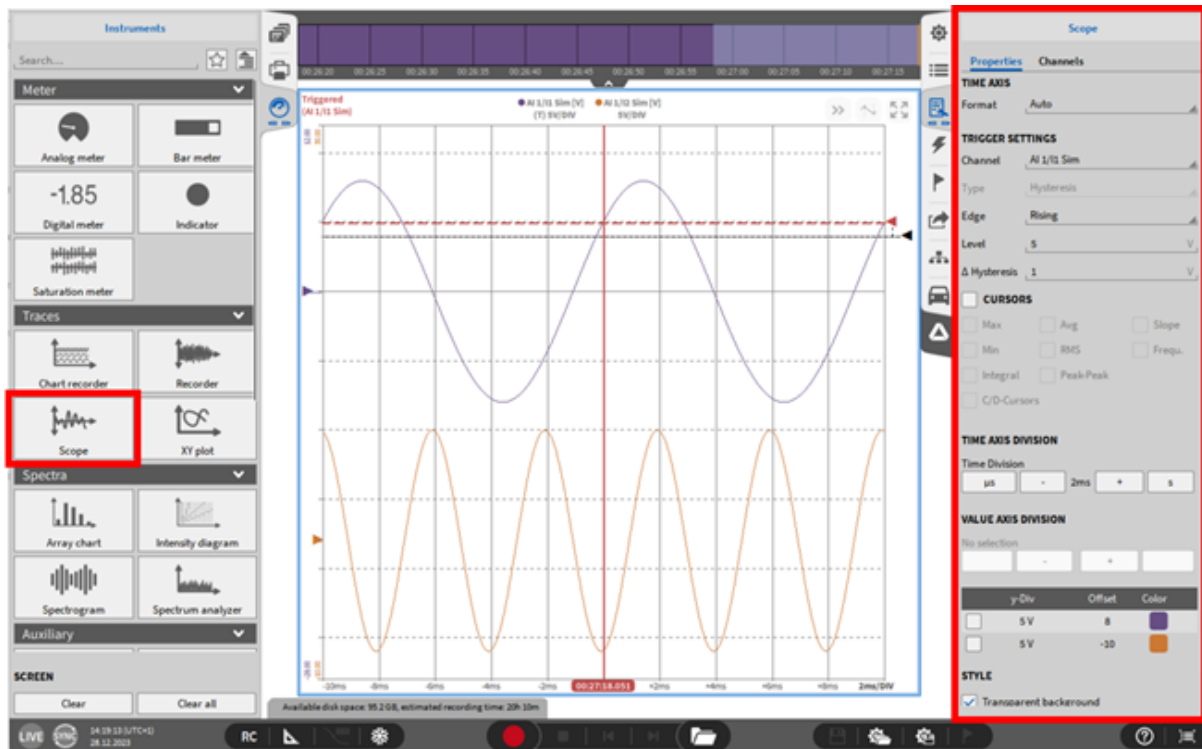
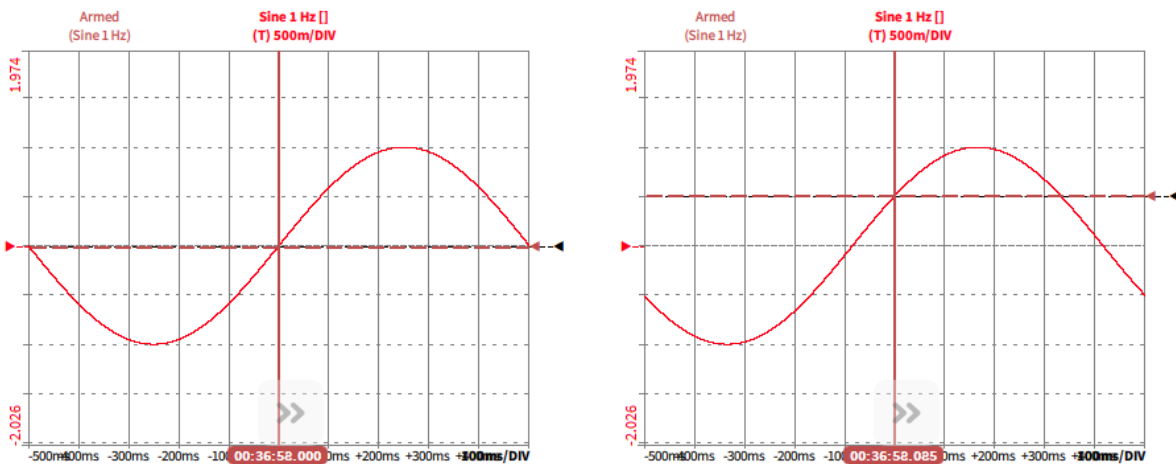

Fig. 8.34: Scope instrument – overview
Fig. 8.36: Rising trigger edge with level 0 (left) and level +0.5 (right)
- In the *Level* selection, the user can define the level of the trigger. The level can also be set with the *Level* cursor (see Fig. 8.34) and must be within the signal range. Fig. 8.36 shows a 1 Hz sine wave with an amplitude of  $\pm 1$  which is triggered with a rising edge on level 0 and level +0.5.
In the  $\Delta$  *Hysteresis* selection, the user can define a level the signal must pass before a new trigger event occurs. Setting a hysteresis level avoids unwanted trigger events that may occur caused by noise around the trigger level. The  $\Delta$  *Hysteresis* level can also be set with the *Hysteresis* cursor (see Fig. 8.34).
- The Offset Cursors (see Fig. 8.34) can be used to displace the displayed signals vertically. Using this function will not affect the phase accuracy.